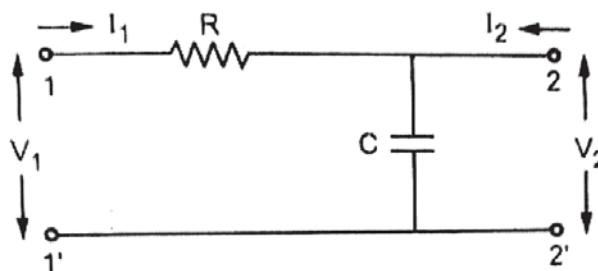

Fig. No. 4
b) Determine the driving point impedance voltage ratio transfer function for the network shown in fig. No. 4. [9]